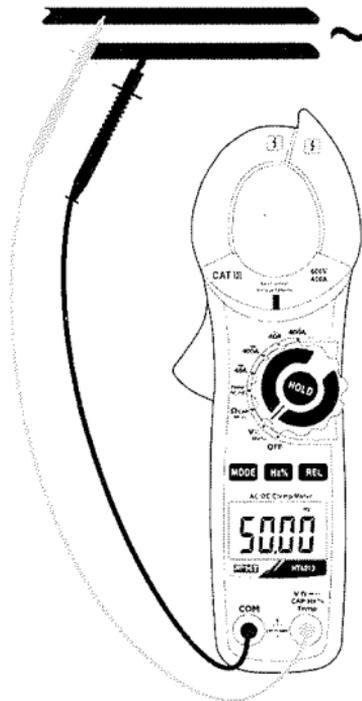

Fig. 4: Use of the clamp for frequency measurement and duty cycle
3. Insert the red cable into input terminal $V \Omega \rightarrow \rightarrow \rightarrow CAP Hz \% Temp$ and the black cable into input terminal **COM** (Fig. 4) for measuring frequency with leads. The value of frequency (Hz) or of duty cycle (%) is shown on the display.